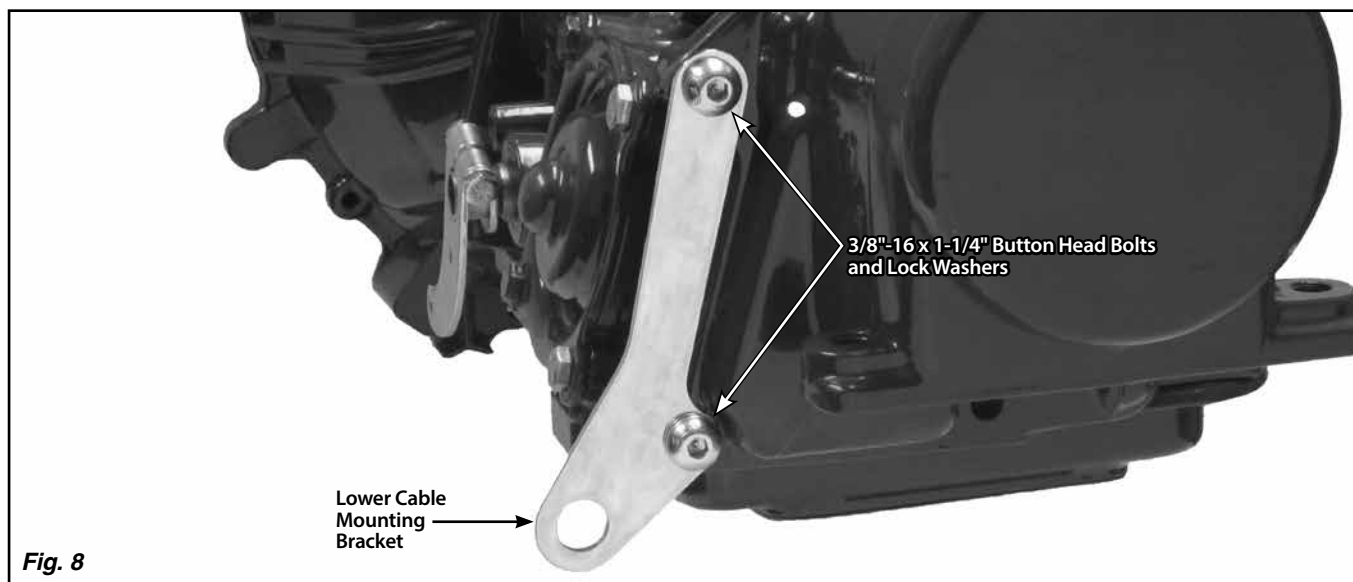

Fig. 8
Step 11: Remove the lower two tail housing bolts from the driver side of the transmission. Install the lower cable mounting bracket onto the driver side of the tail housing, using the provided 3/8"-16 x 1-1/4" button head bolts and lock washers. **Fig. 8**